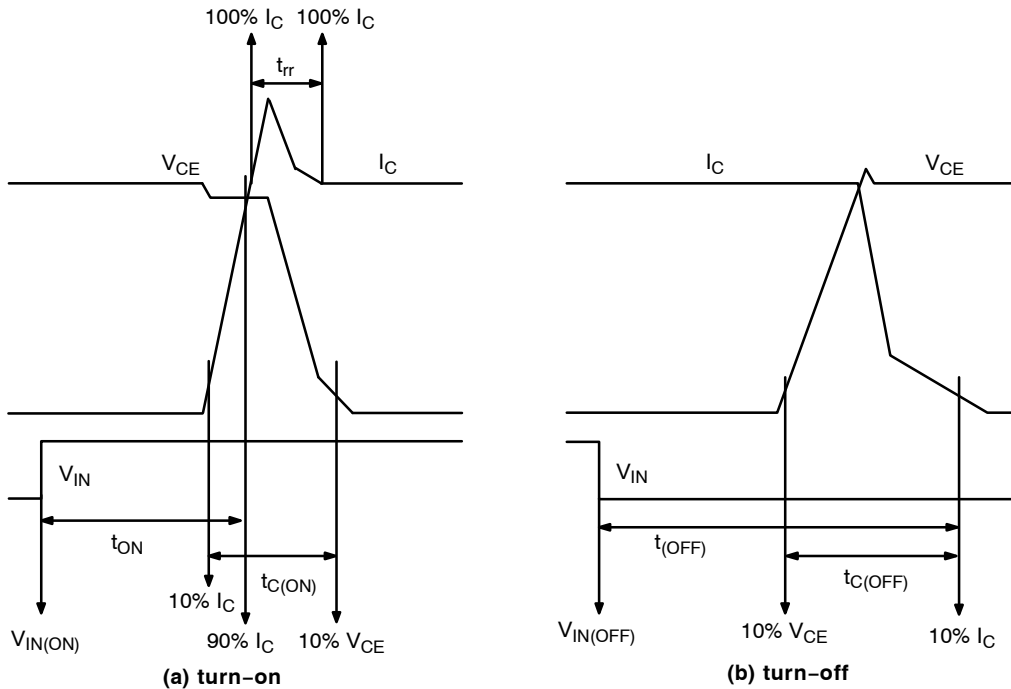

Figure 3. Switching Time Definition
6. t_{ON} and t_{OFF} include the propagation delay time of the internal drive IC. t_{C(ON)} and t_{C(OFF)} are the switching time of IGBT itself under the given gate driving condition internally. For the detailed information, please see Figure 3.